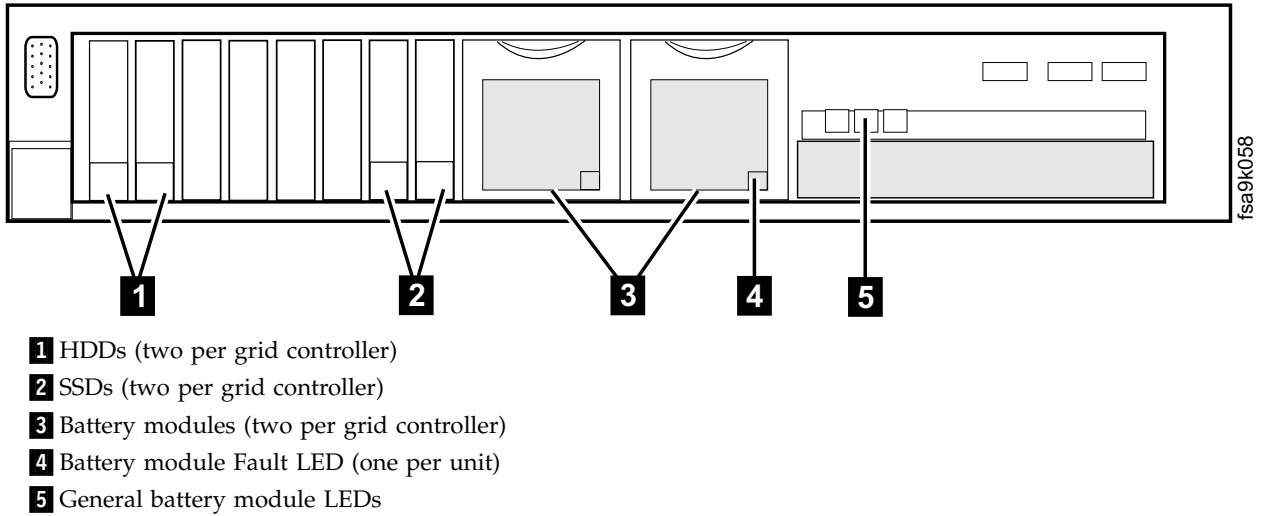
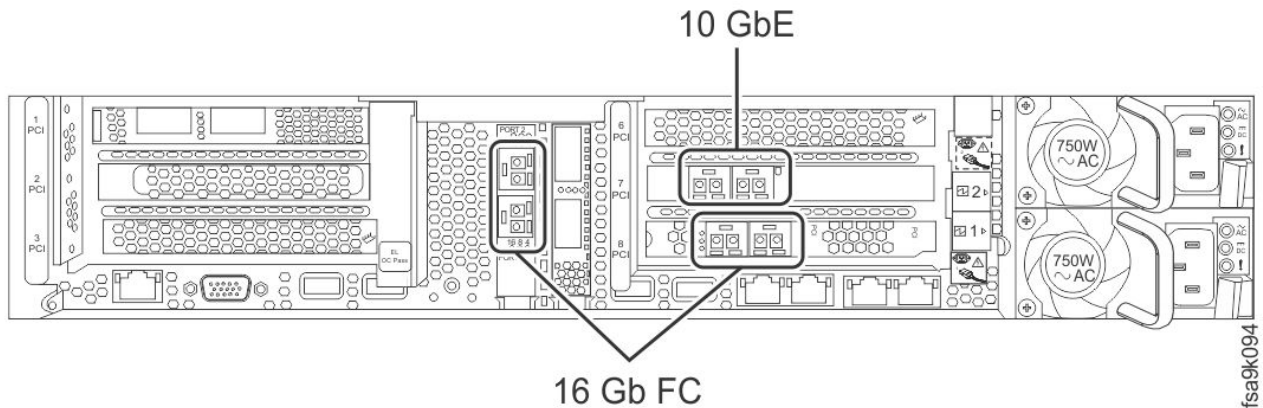
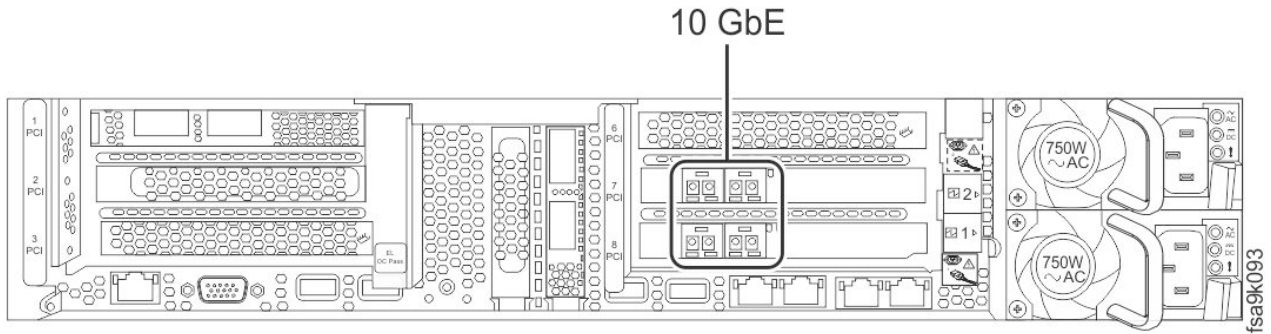

Figure 5. Front of a grid controller
Figure 6. Rear of a grid controller with FC configuration
Figure 7. Rear of a grid controller with 10 Gb Ethernet configuration
An IBM FlashSystem A9000 unit contains three (3) grid controllers. Figure 5 on page 13 illustrates the front of the grid controller. Figure 6 on page 13 and Figure 7 on page 14 illustrate the two rear options for the grid controller.
Attention: Do not use the power button / LED (not shown in Figure 5) to turn off the machine. This can lead to a customer impact event (CIE).